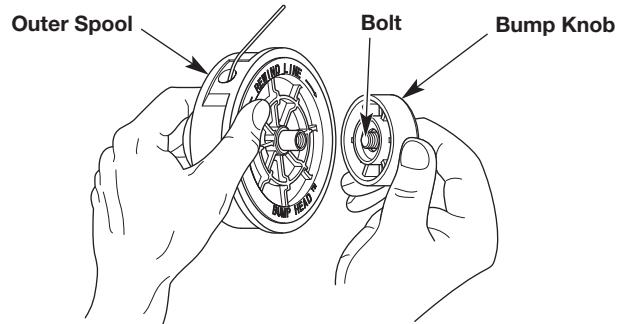

Fig. 11
- Hold the outer spool with one hand and unscrew the bump knob counterclockwise (Fig. 11).